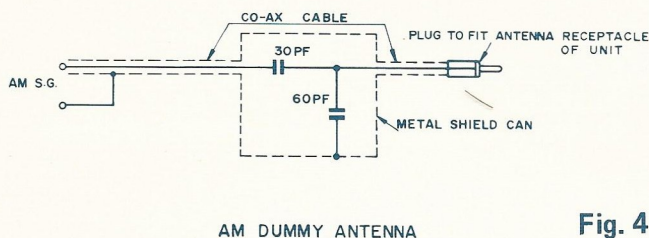

Fig. 4
- (1) Press the AM/FM button to set the radio for AM reception.
- (2) AM signal generator should be coupled with antenna receptacle through dummy antenna (See Fig. 4).
- (3) Set volume control to maximum.
- (4) Modulation 400 Hz 30%.